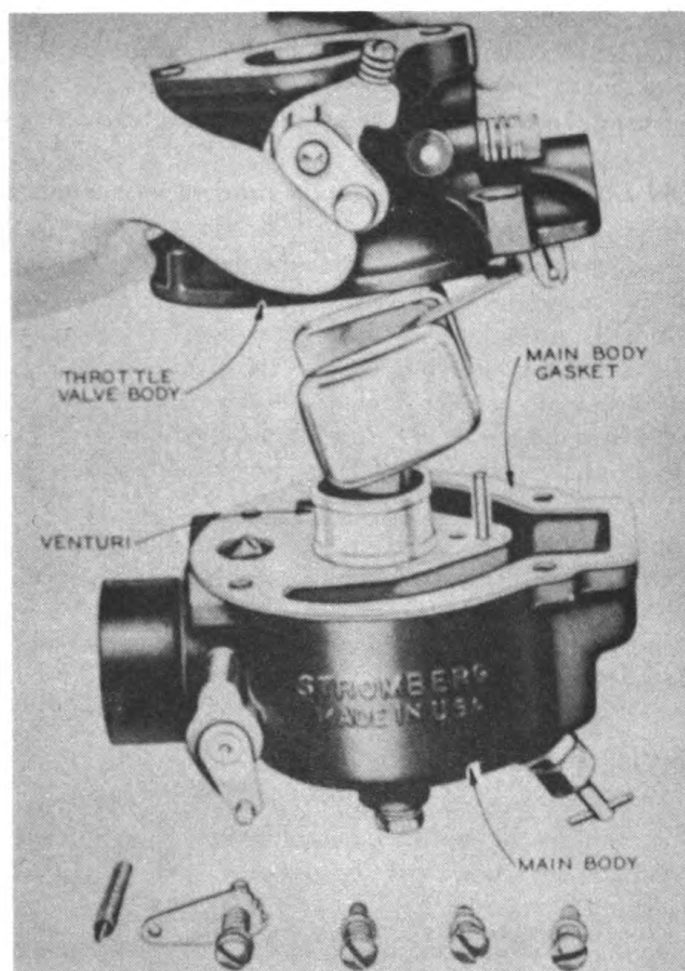

Fig. 101
7. Place venturi in main body. Place main body gasket over venturi and idle tube. Install throttle valve body into main body with screws and lockwashers. (Fig. 101).